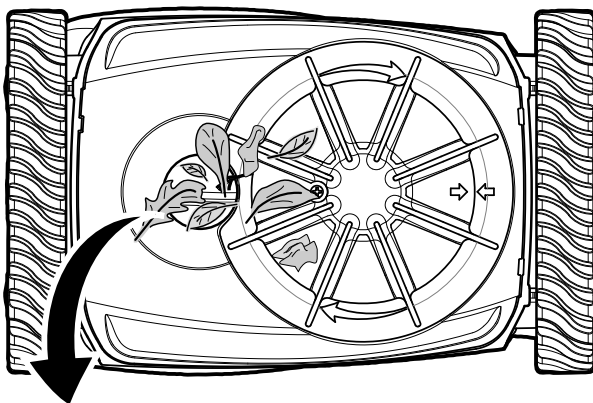

Figure 11
6. Turn cleaner over and check for debris in scrubber and inlet (Figure 11).